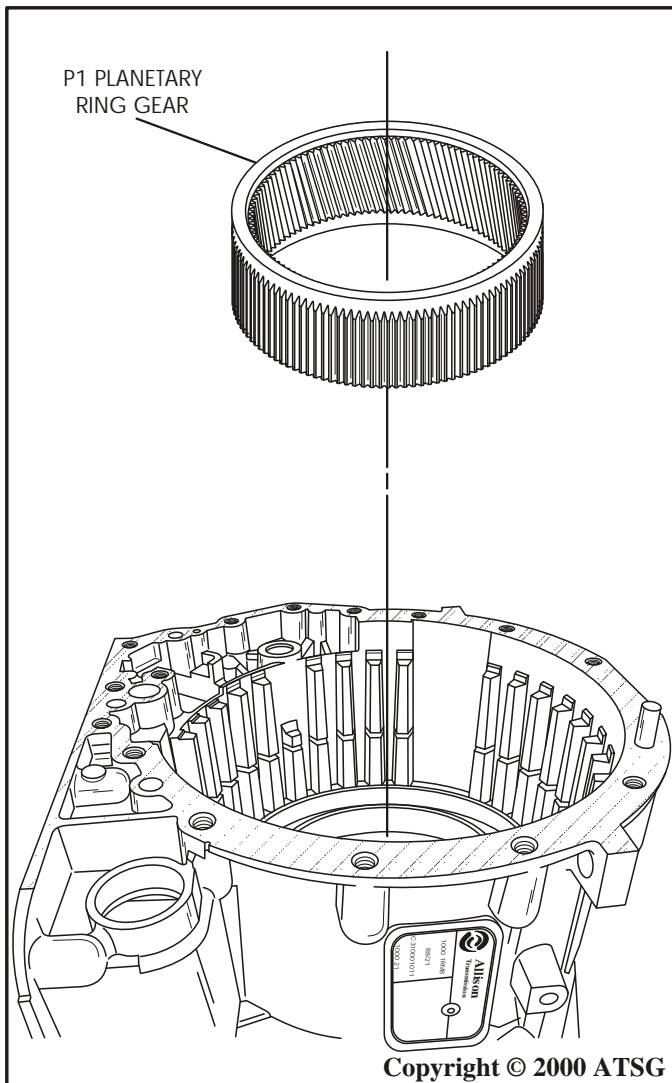

Figure 81
12. Install the P1 planetary ring gear into the case and engaging into the C3 lined plates until it is fully seated against the washer surfaces on the C3 backing plate (See Figure 81).